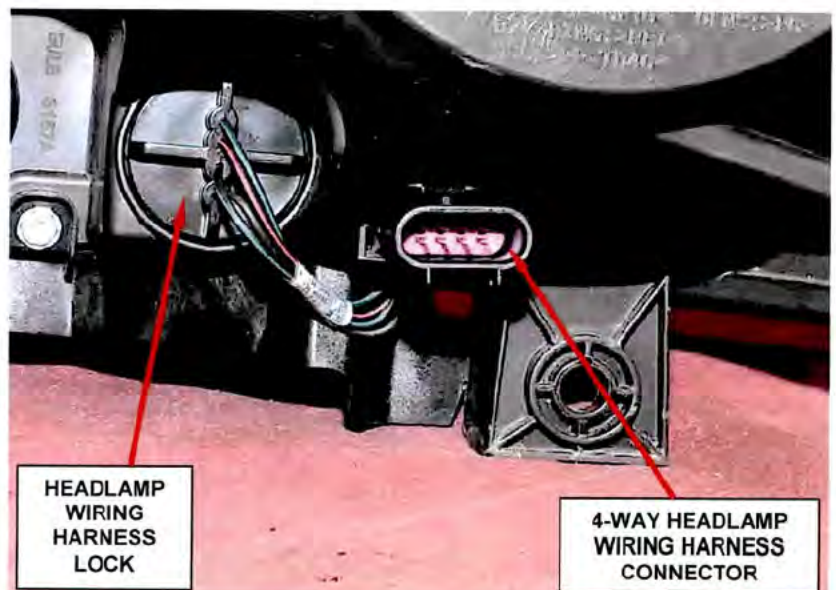

Figure 6 – Clip Headlamp Wiring Harness into Position
17. Clip the 4-way headlamp wiring harness connector to the headlamp housing (Figure 6).